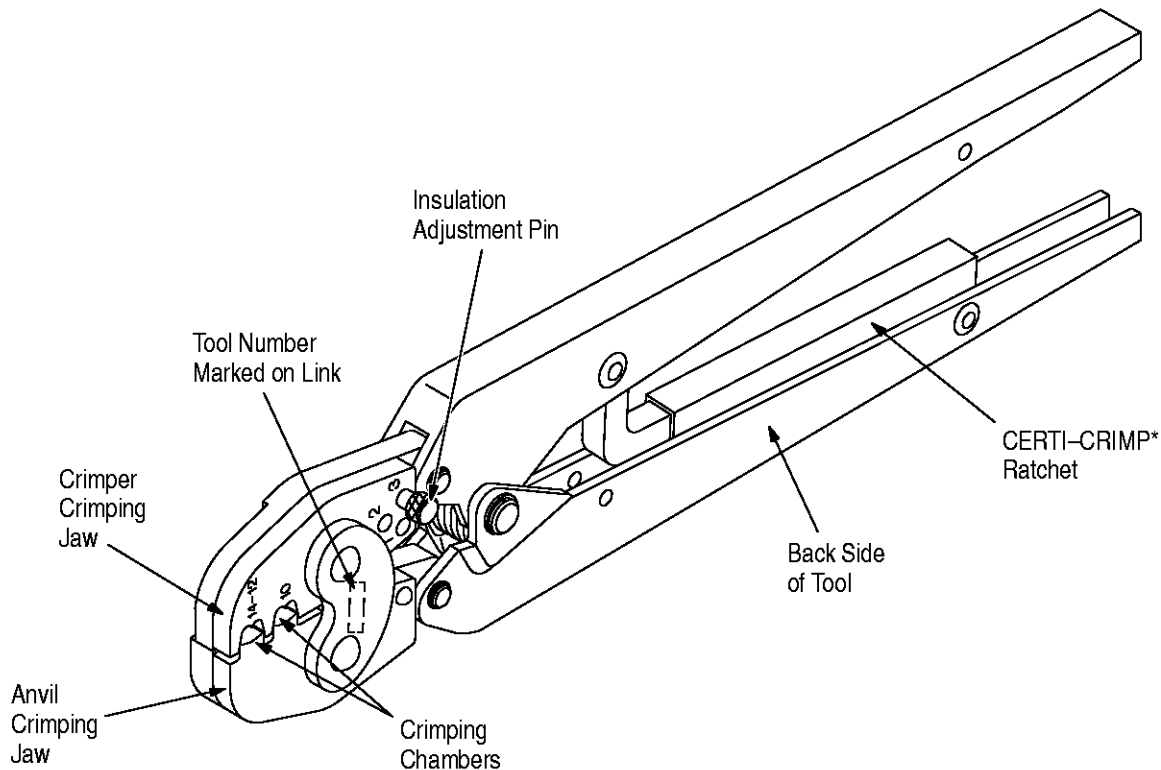

Figure 1
two crimping chambers, each marked on the BACK side of the tool with the wire size range. The tool number is marked on the link. See Figure 1.
1. Insert adjustment pin into Position 3, as shown in Figure 1.